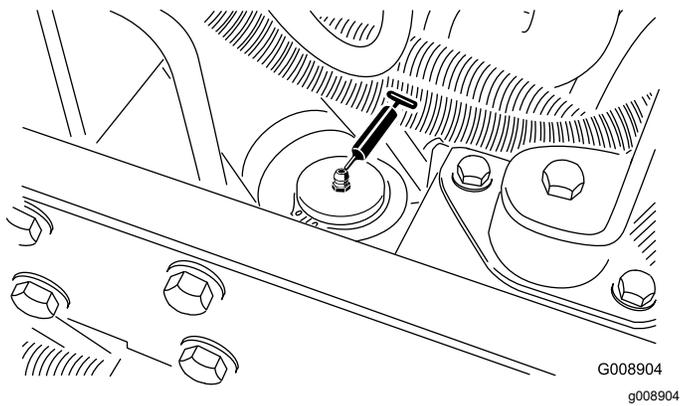

Figure 38
- Neutral-adjustment mechanism (Figure 38)
- Steering cylinder (Figure 38)